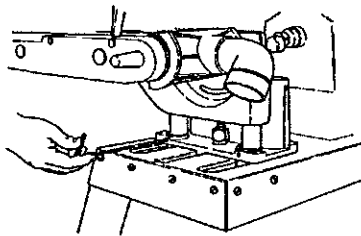
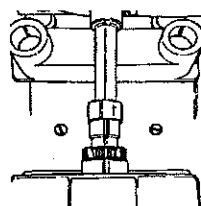

Fig.F-8
Fig.F-7
10. When you have reached horizontal alignment as in Fig.F-7, tighten the carriage setscrews (22), securing the Belt Sander tubes. See Fig.F-8.